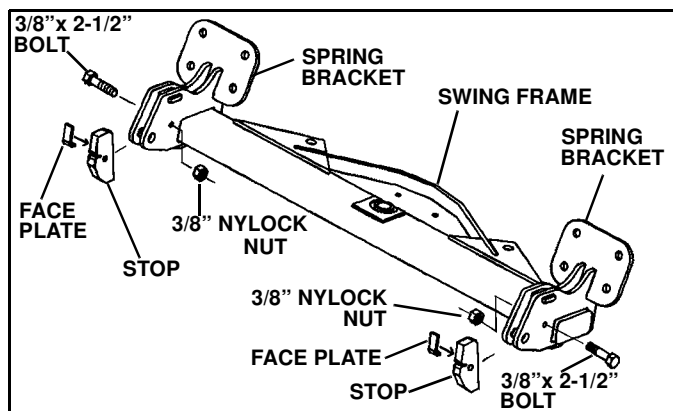

Figure 2-1
2. Slide the metal face plates into the slot in the blade stops from the side. Place the stops between the lugs on the swing frame. Secure with 3/8" x 2-1/2" bolts and locking nuts. (See Figure 2-1.) Bolts and nuts are in the blade parts bag.